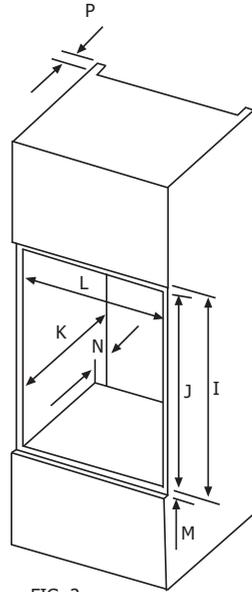

FIG 2
## Refer to FIG.2 for the dimensional requirements.
4. Ventilation is required for the product, to allow it to function correctly, a cutout should cut into the top of the housing unit (see FIG.2), to provide this.
The appliance is designed to fit into a standard 600mm wide housing unit, with minimum internal dimensions as shown in FIG.2 of the installation dimensions. Please note that all sizes are nominal, and some variation is to be expected.